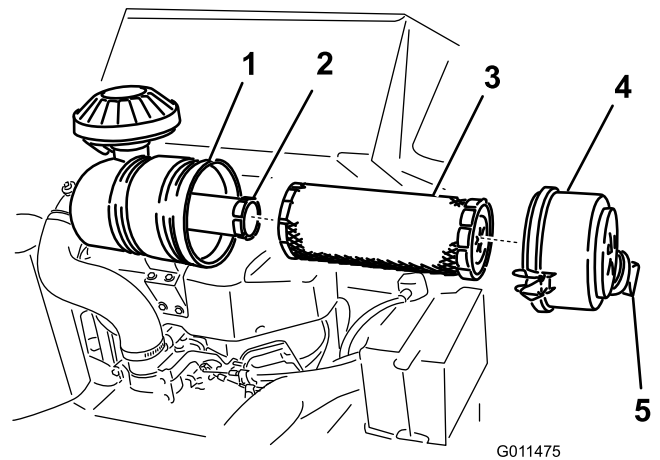

Figure 30
3. Release the latches on the air cleaner and pull the air cleaner cover off of the air cleaner body (Figure 30).
1. Gently slide the primary filter out of the air cleaner body (Figure 30).
- If you are replacing the safety filter, carefully slide the new filter into the filter body (Figure 30).
- Carefully slide the primary filter over the safety filter (Figure 30).
- Install the air cleaner cover with the dust cap oriented as shown in Figure 30 and secure the latches.